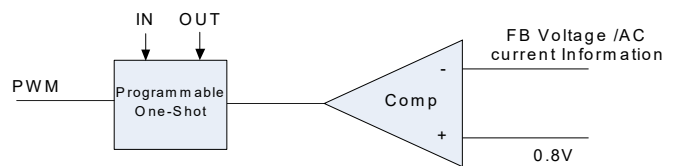

Figure 2. Simplified control schematic of AOZ2250BQI-22
The control algorithm of AOZ2250BQI-22 is constant-on-time PWM control with input feed-forward. The simplified control schematic is shown in Figure.2. The high-side switch on-time is determined solely by a one-shot whose pulse width is inversely proportional to input voltage (IN) and directly proportional to output voltage (OUT). The one-shot is triggered when the internal 0.8V is higher than the combined information of FB voltage and the AC current information of inductor, which is processed and obtained through the sensed low-side MOSFET current once it turns-on. The added AC current information can help the stability of constant-on time control even with pure ceramic output capacitors, which have very low ESR. The AC current information has no DC offset, which does not cause offset with output load change, which is fundamentally different from other V^2 constant-on time control schemes.